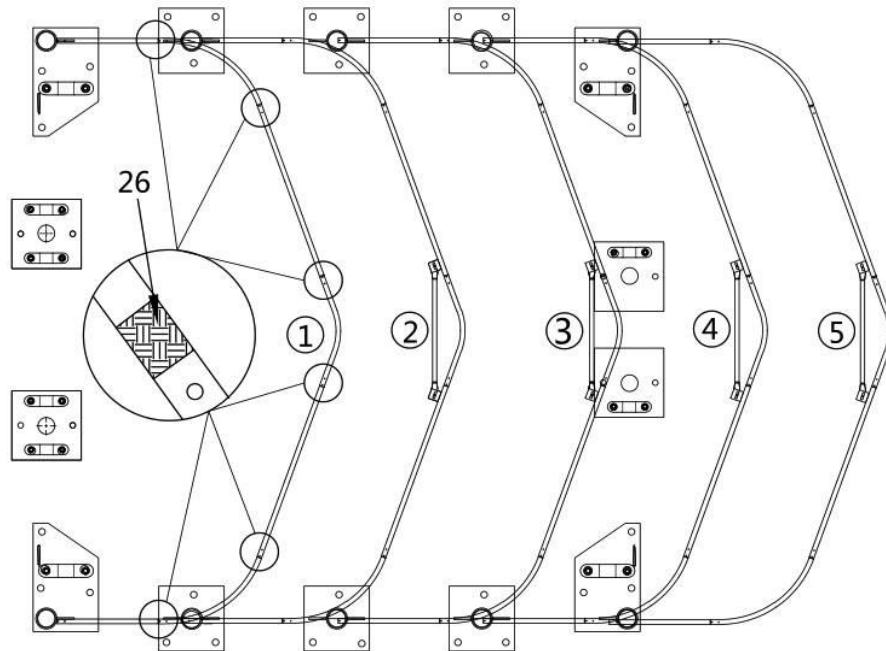

Figure 5
- Lay down all (5) trusses on the ground as figure 5 when the assembly is all completed and before moving to next step (refer to figure 5).